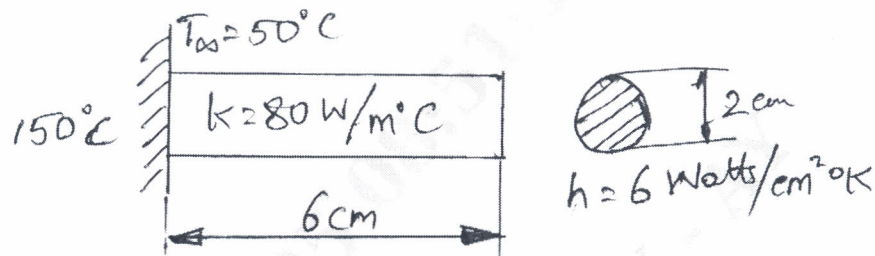

Fig.Q.7(b)
b. Find the temperature distribution in the one dimensional fin shown in Fig.Q.7(b).